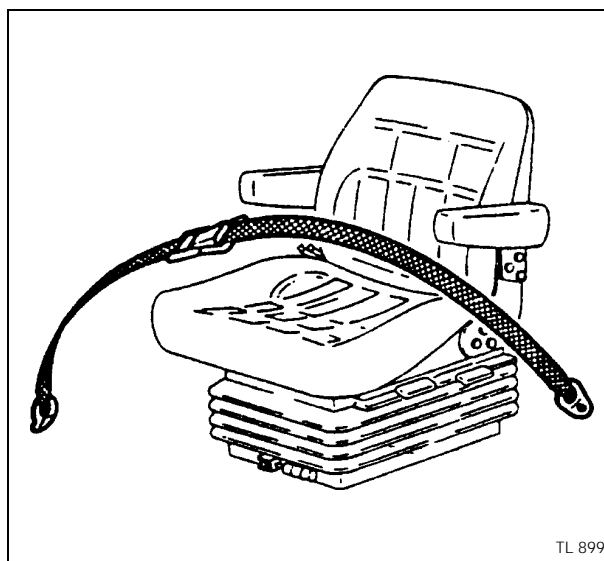

Fig. 6
- Check the seat belt for damage. A damaged seat belt must be replaced (Fig. 6).
- Check ROPS and seat belt for damage. A damaged ROPS or seat belt (*see Fig. 6*) **MUST** be replaced.